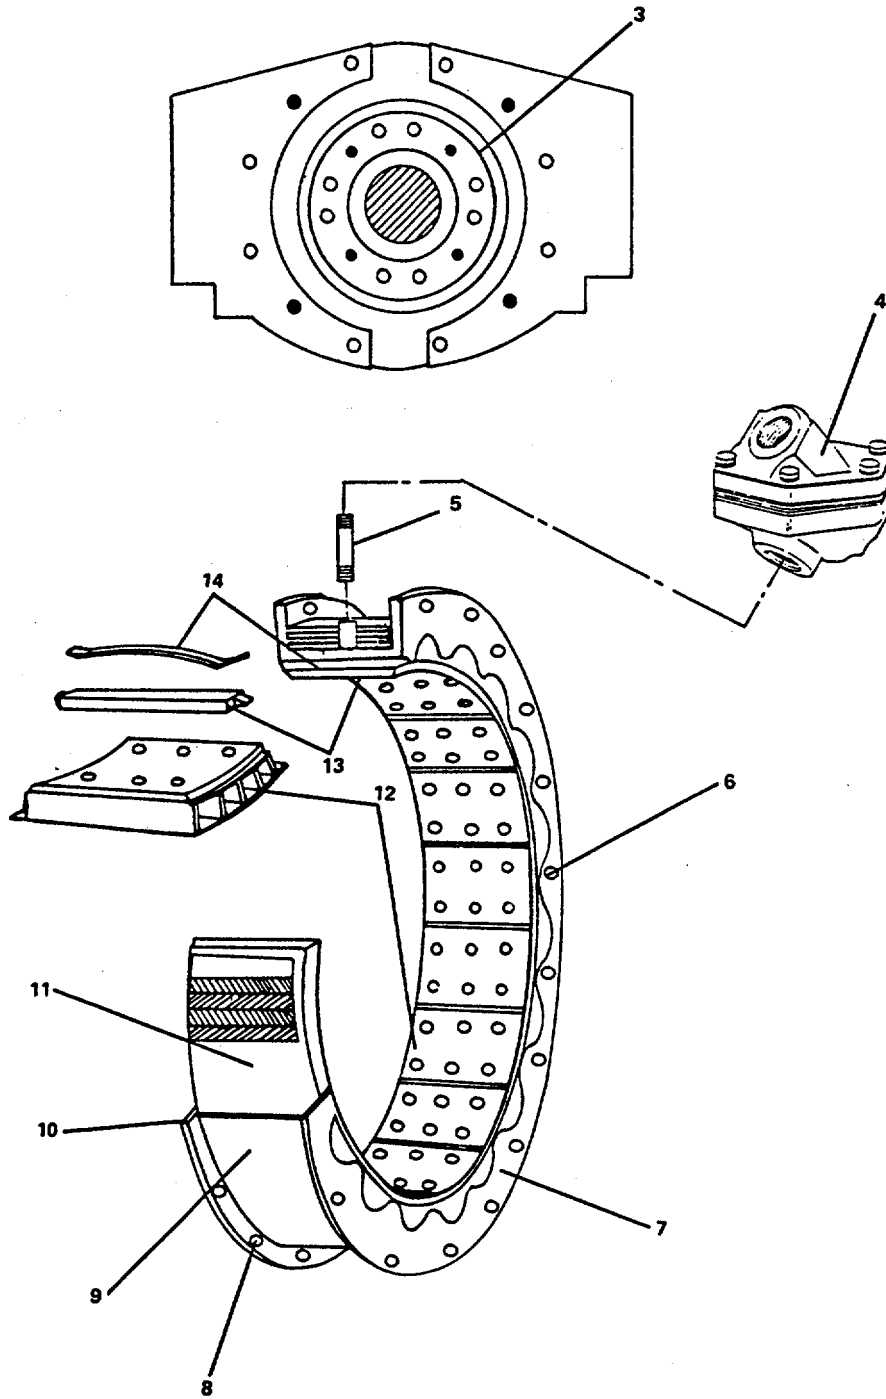
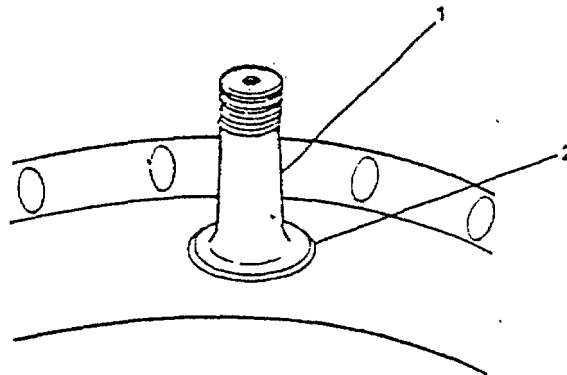

FIGURE 3-191. Expander Tube Brake Drum.
FIGURE 3-192. *Rubber Actuating Tube.*
- (1) Mark side plate (7, Figure 3-191) and brake element rim (9) to ensure assembly in same position.
- (1) Disconnect air tubing from IN port of quick exhaust safety release valve (4).
- (2) Remove quick exhaust safety release valve (4) from straight adapter (5).
- (3) Remove straight adapter (5) from rubber actuating tube valve (1), Figure 3-192 .
- (4) Remove snap ring (2) securing rubber actuating tube valve (1) to the rim. Replacement snap ring is furnished with replacement tube.
- (5) Using smooth bar, insert bar between rubber actuating tube (11, Figure 3-191) and rim (9) and force actuating tube valve (1, Figure 3-192) to clear hole in rim and pull tube out of rim.
- (1) Inspect each friction shoe assembly (12, Figure 3-191) for broken or cracked flat release springs (14) and torque bars (13). Replace defective springs and torque bars with new ones.
- (1) Install replacement rubber actuating butt end tube (11) in brake element center rim (9), positioning tube air valve (1, Figure 3-192) up through rim opening.
- (2) Install snap ring (2) on air valve (1).
- (3) Install straight adapter (5, Figure 3-191) on actuator tube air valve (1, Figure 3-192).
- (4) Install quick release exhaust valve (4, Figure 3-191) OUT port onto straight adapter (5).
- (5) Connect air tubing to quick release exhaust valve (4) IN port.